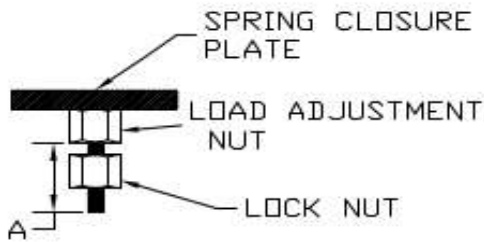

Figure 18C
3. Backup the lock nut from the load adjustment nut located on the spring rod. Measure the distance between the edge of the spring rod and the outer surface of the load adjustment nut, marked "A" in figure 18C on page 20.